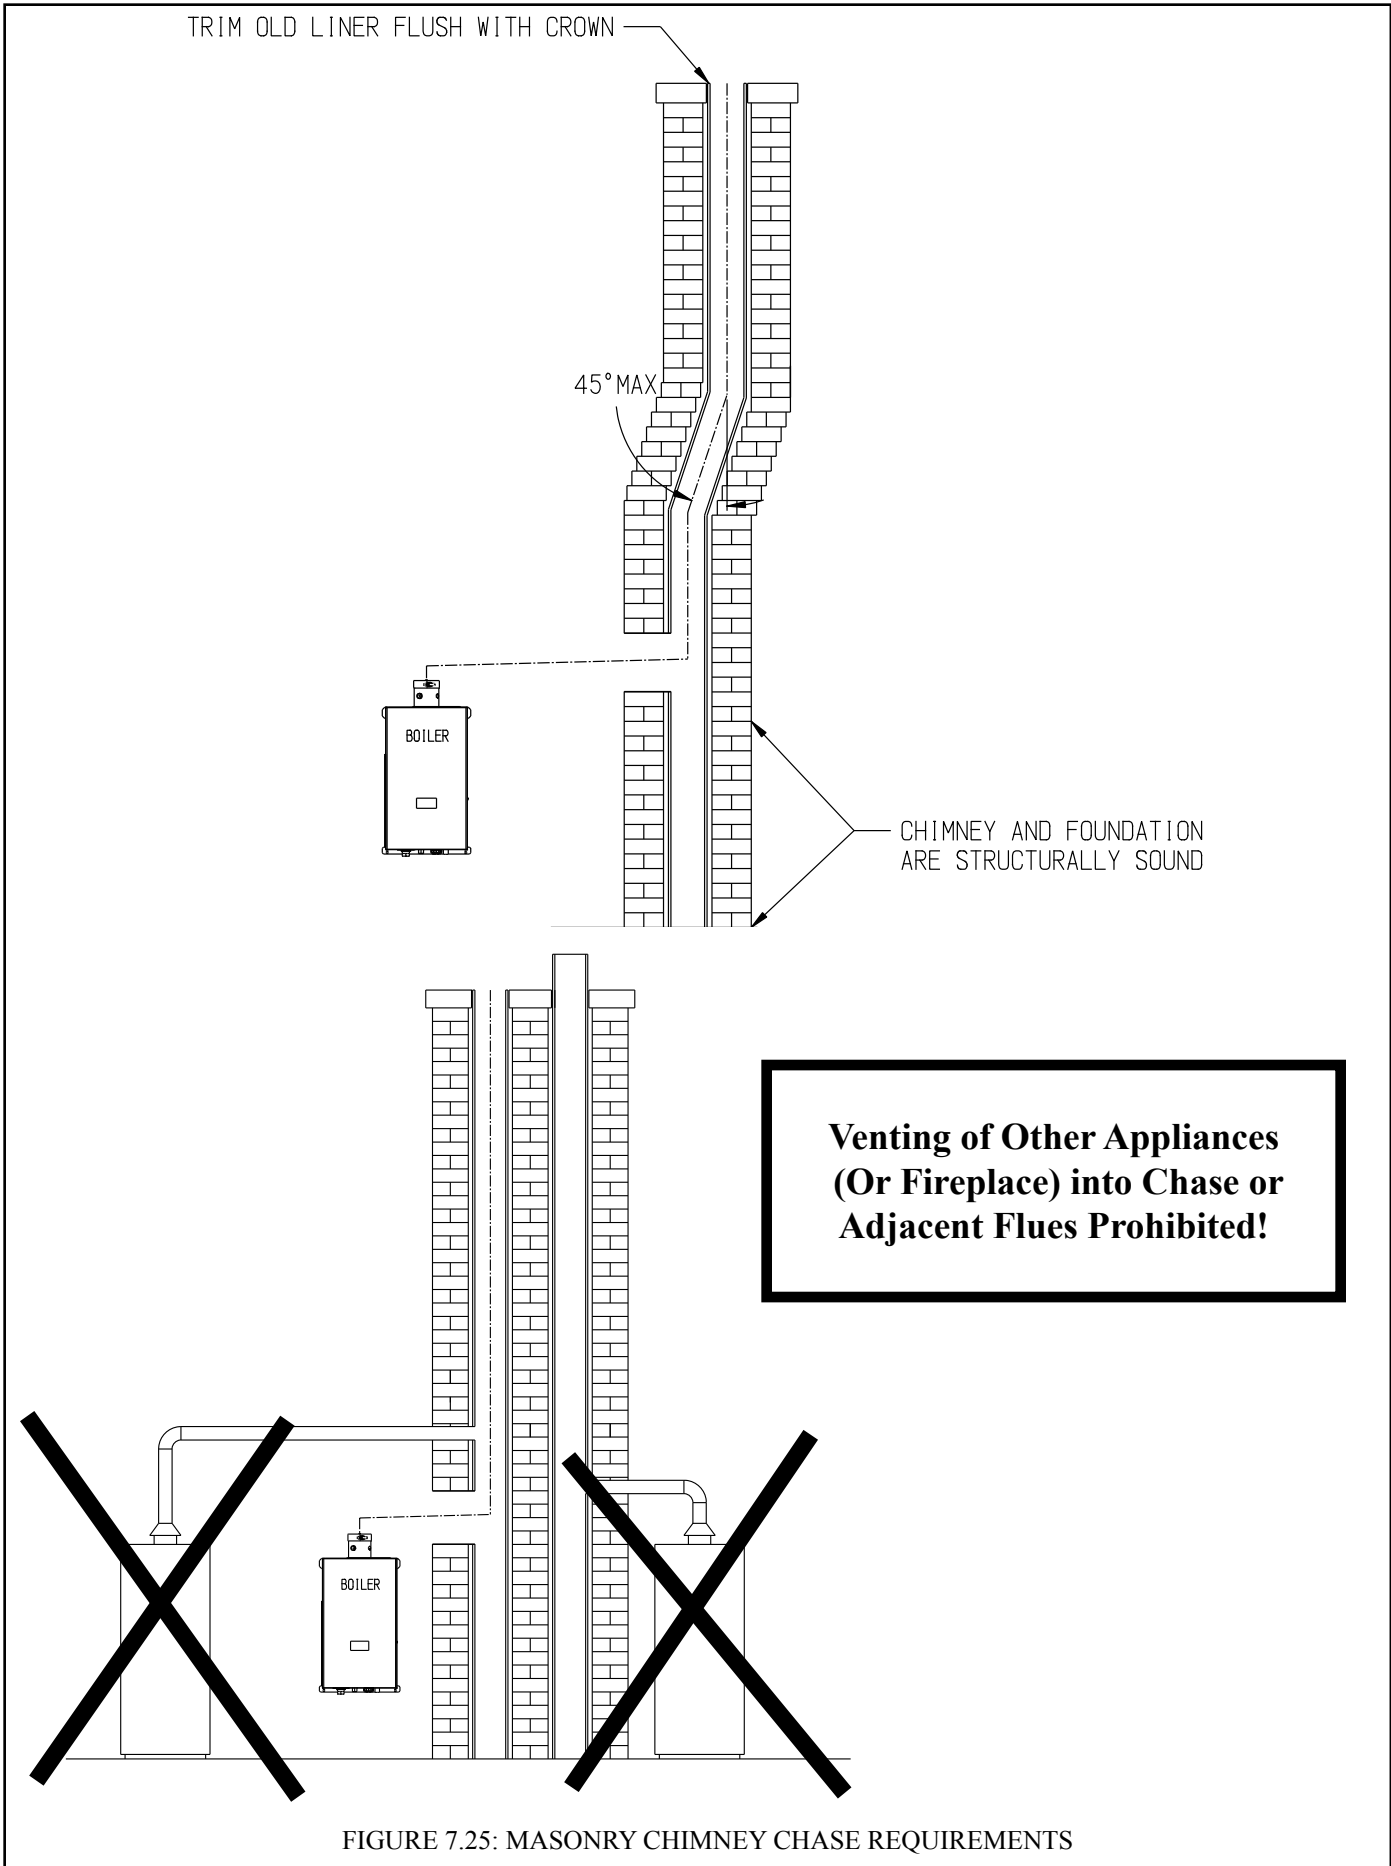

FIGURE 7.25: MASONRY CHIMNEY CHASE REQUIREMENTS
- All flex pipe must be installed vertically. Up to two offsets (four bends) may be made in the vertical run of flex pipe. Bends used to make these offsets may not exceed 45 degrees (Figure 7.25).